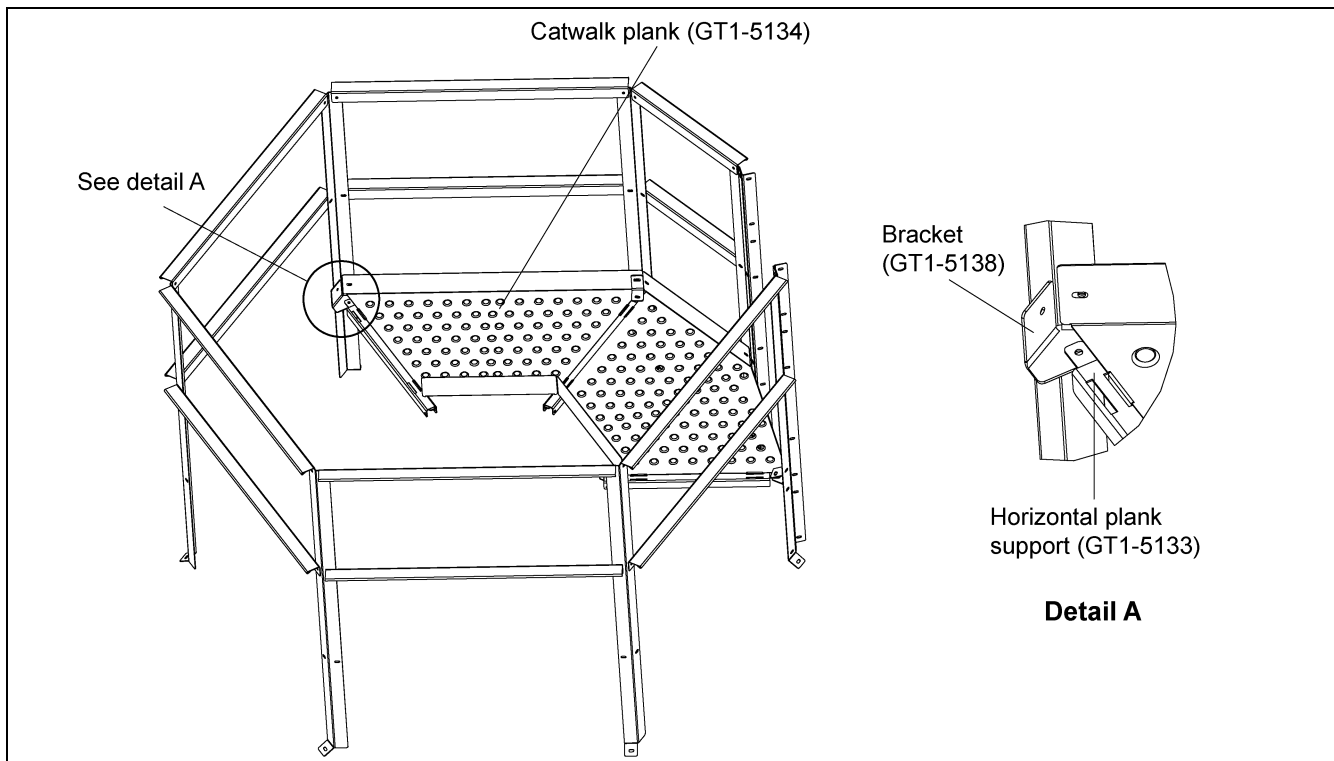

Figure 3J
8. Assemble catwalk plank (GT1-5134), bracket (GT1-5138), horizontal plank support (GT1-5133) using 5/16" hardware. (See Figure 3J.)